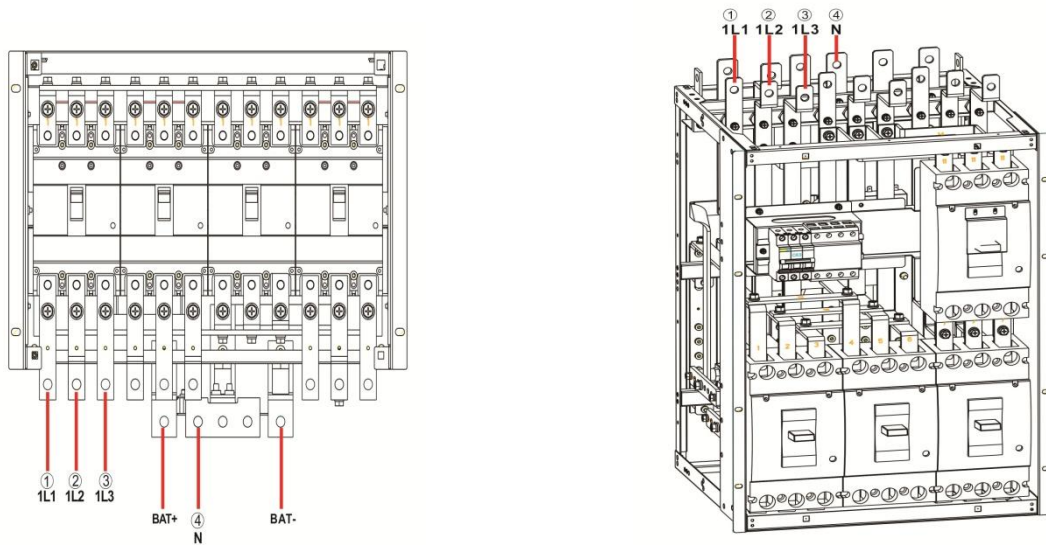

Fig.3-14 Connect the AC input cable (100kVA) Fig.3-15 Connect the AC input cable (200kVA)
**Step 2:** Connect the AC input cables to the main input power distribution terminals 1L1, 1L2, 1L3, and N in sequence, as shown in Figure 3-14 and Figure 3-15. Before powering on, please use a multimeter to confirm that there is no short circuit between each phase of the terminals.